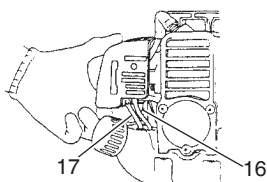

Fig. 12
\* Push priming bulb (16) several times so that fuel flows through return pipe (17). (Fig. 12)